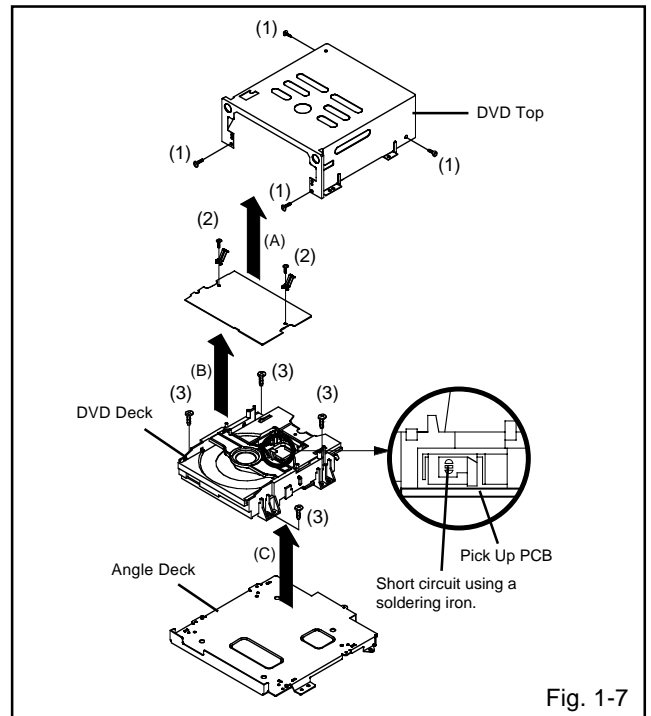

Fig. 1-7
1-7: DVD PCB/DVD DECK (Refer to Fig. 1-7)
1. Short circuit the position shown in **Fig. 1-7** using a soldering iron. If you remove the DVD Deck with no soldering, the Laser may be damaged.
2. Remove the 4 screws (1).
3. Remove the DVD Top in the direction of arrow (A).
4. Remove the 2 screws (2).
5. Remove the DVD PCB in the direction of arrow (B).